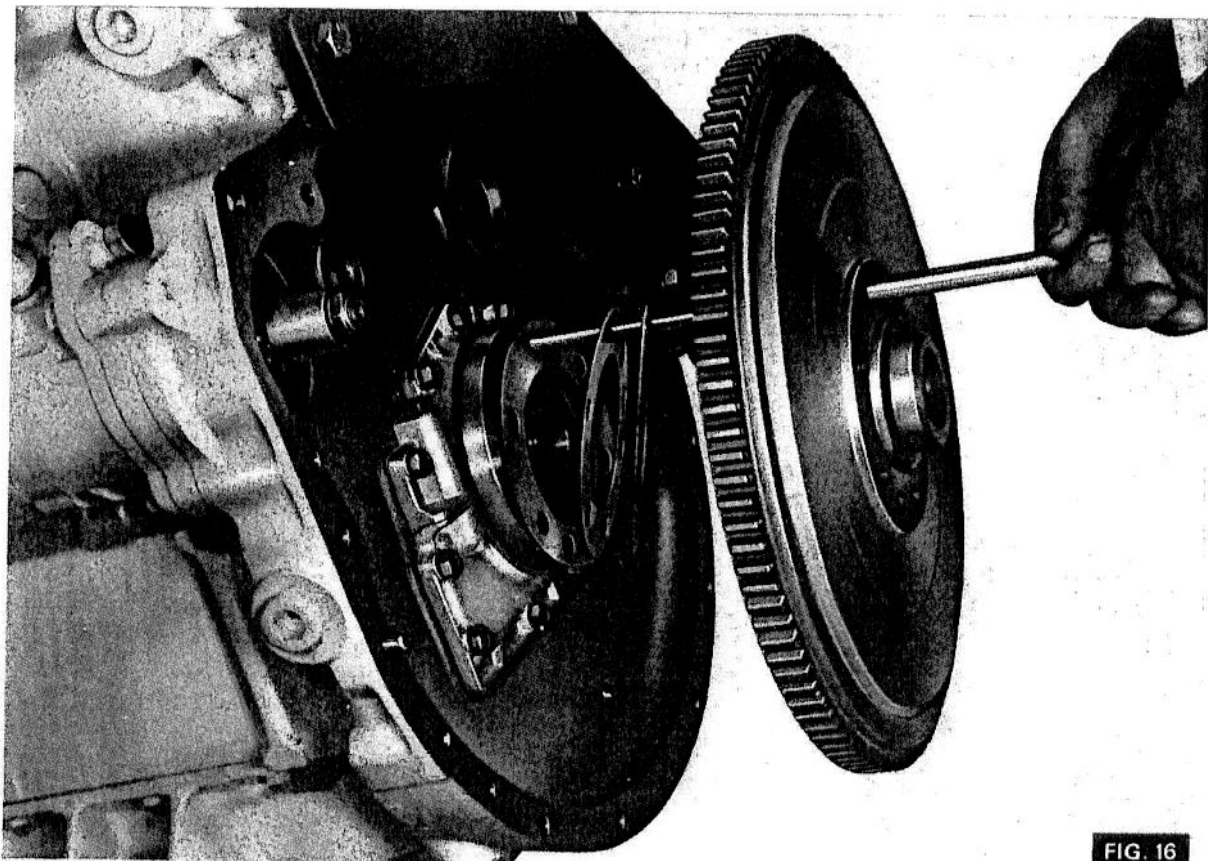

FIG. 16
5. (Fig. 16) Insert the rod into the dowel hole in the flywheel and gently lever the flywheel, complete with shims, onto the rod.